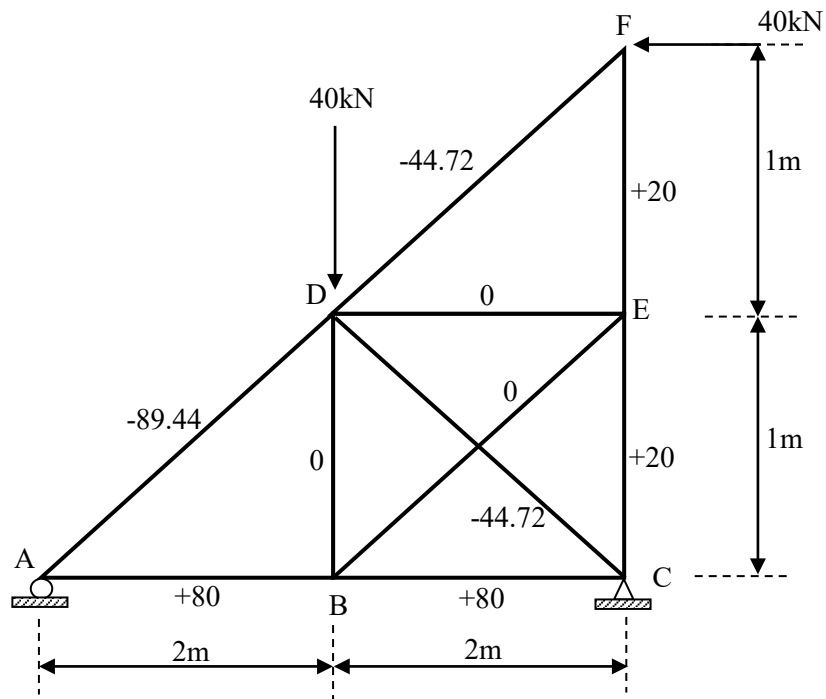

Figure A1(c)/ Rajah A1(c)
- CLO2 (c) A statically indeterminate truss is subjected to an external load as shown in Figure A1(c). The internal forces (P) in each member are given as follows. Given the cross-sectional areas, A and the modulus of elasticity, E for each member of the truss are constant.
*Sebuah kekuda tidak boleh tentu statik dikenakan beban luaran seperti ditunjukkan dalam Rajah A1(c). Daya dalaman anggota kerangka (P) diberi seperti berikut. Diberi luas keratan rentas, A dan modulus keanjalan, E bagi setiap anggota kekuda adalah malar.*